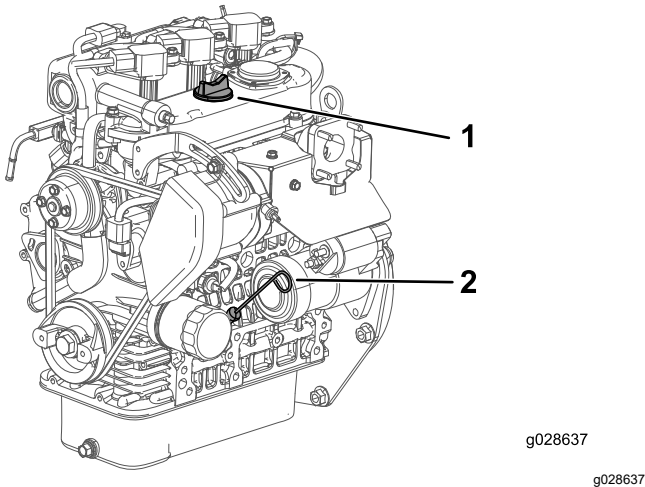

Figure 15
2. Remove the dipstick (Figure 15) and wipe it with a clean rag.
3. Insert the dipstick into the tube and make sure it is seated fully (Figure 15).
4. Remove dipstick and check the level of the oil (Figure 15).
5. If the oil level is low, remove the filler cap (Figure 15), and add enough oil to raise the level to the Full mark on the dipstick.
6. Install the dipstick firmly in place (Figure 15).